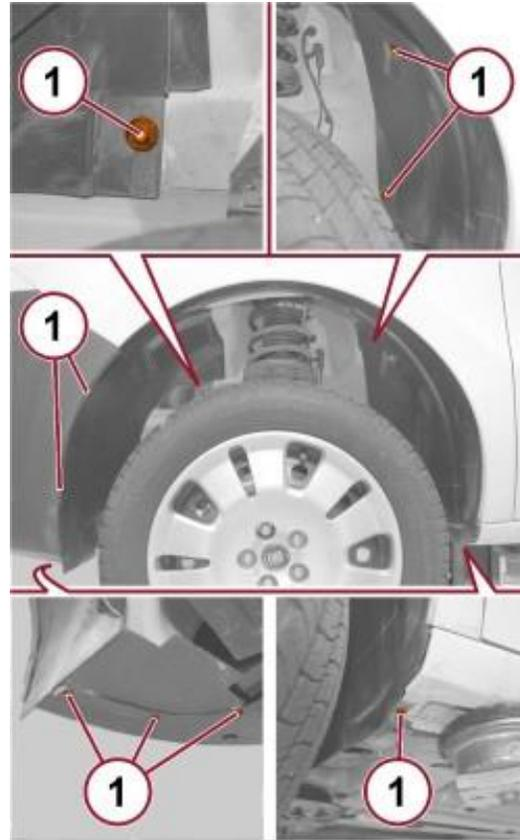

Figure 7 – Wheelhouse Liner
13. Remove the screws and nuts (1) then remove the wheelhouse liner (Figure 7).
9. Fit the supplementary wheel arch in its housing and tighten the fixing screws and nuts (1) (Figure 7).